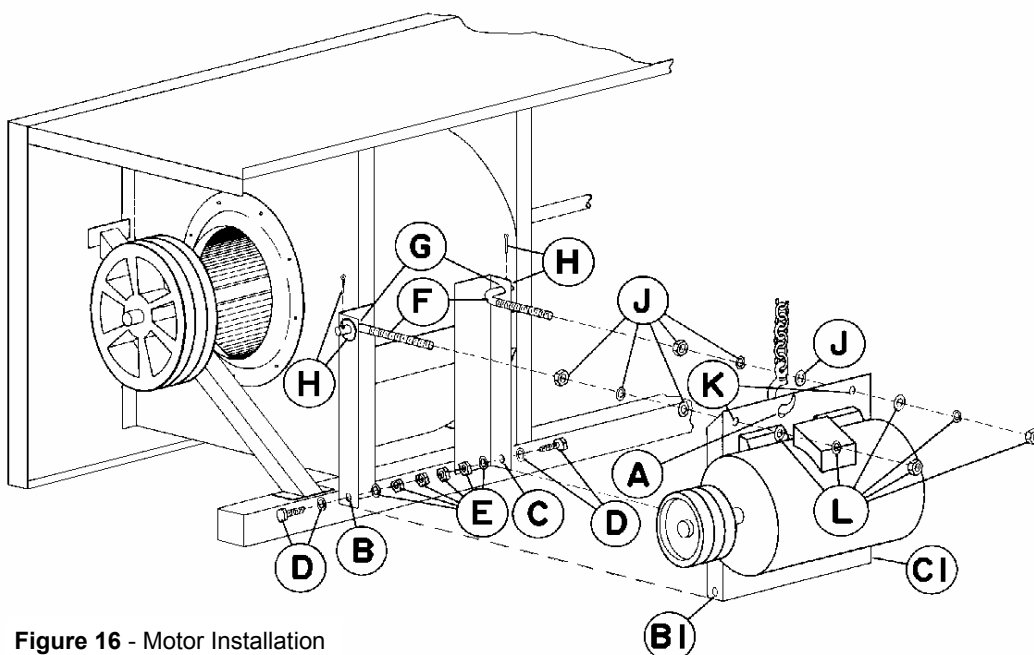

Figure 16 - Motor Installation
1. Refer to Figure 16 before installing the motor base(s).